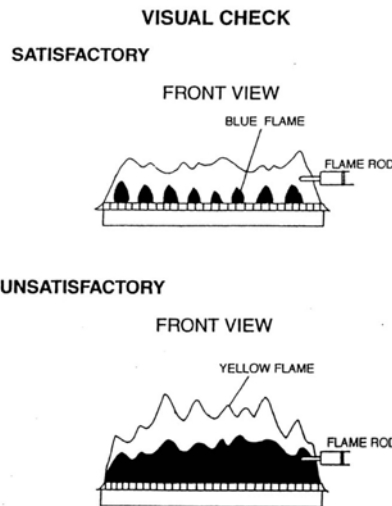

Figure 18. Burner Flame Appearance.
2. Visually inspect the burner flames. The flame must burn with a clear blue, stable flame (possibly with orange tips). Refer to Figure 18 for satisfactory flame appearance. If the burner flame appearance is not satisfactory or debris is visible on the burners, remove and clean with a vacuum cleaner.